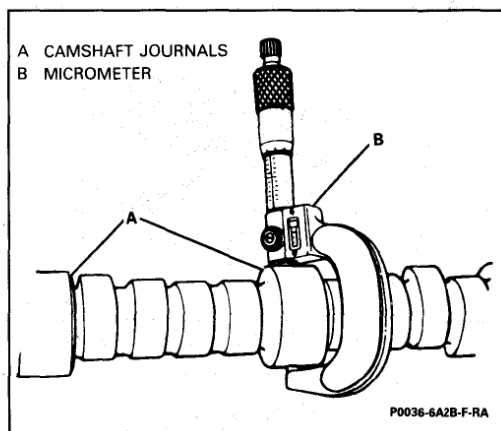

Figure 57 Measuring Camshaft Journals
Figure 57 and 58
- D. Measure camshaft journal runout and lobe lift (Figure 57 and 58). If out of specification, replace the camshaft.